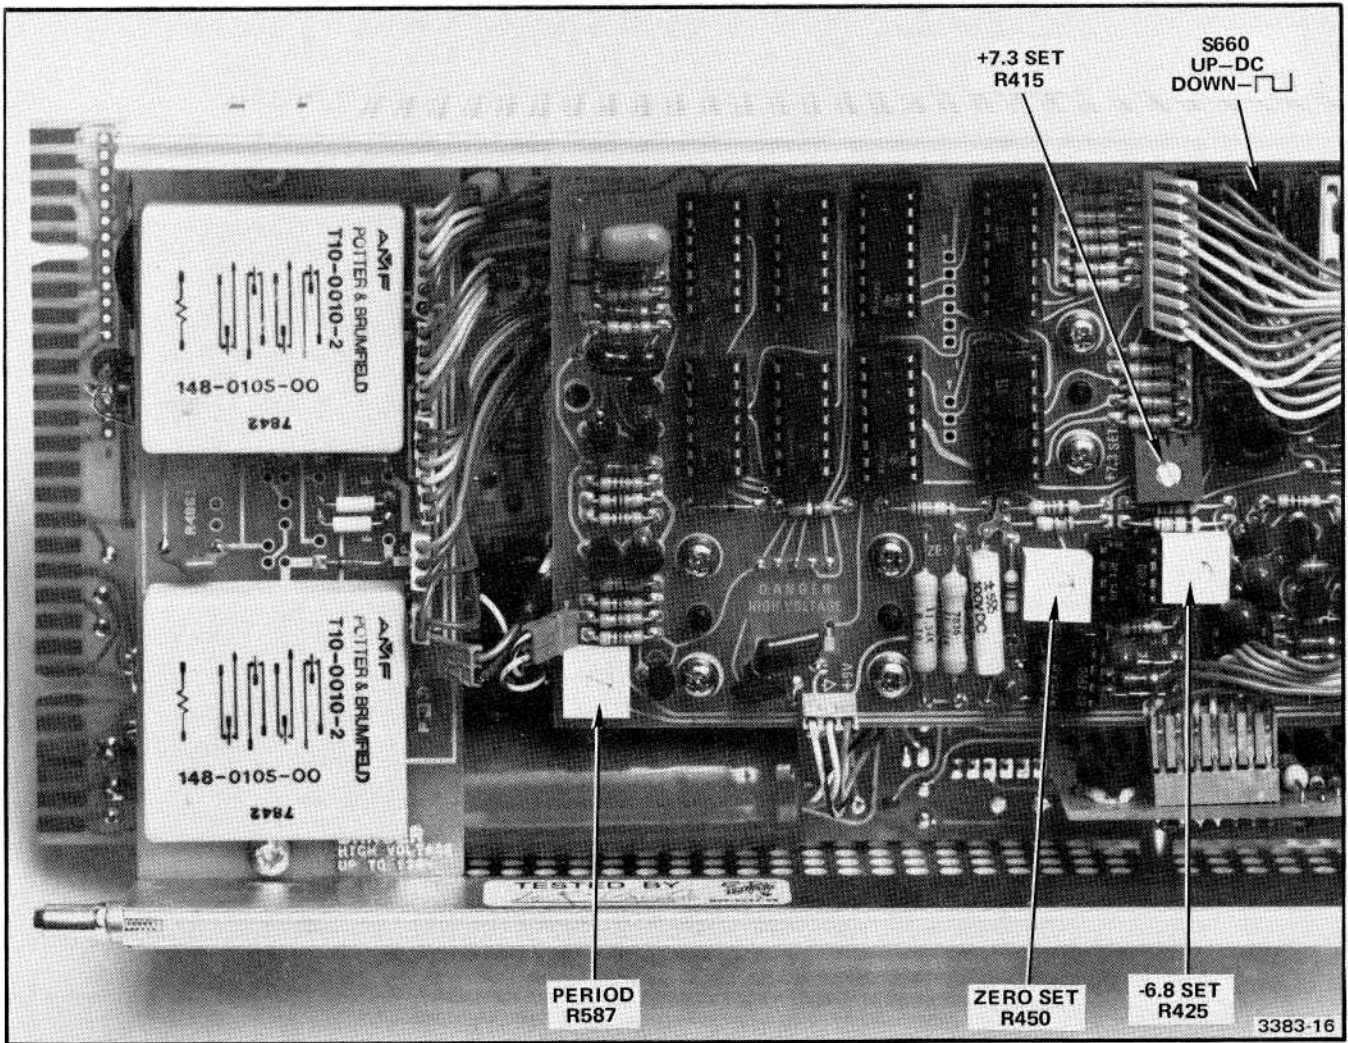

Fig. 4-6. Adjustment locations for the A2 DVM/Period circuit board.
DC— (S660)	DC (up) Refer to Fig. 4-6.
d. Adjust—Zero Set (R450) for a 0.0% reading. Refer to Fig. 4-6.
g. Adjust—6.8 Set (R425) for a 6.8 reading. Refer to Fig. 4-6.
j. Adjust—+7.3 Set (R415) for a 7.3 reading. Refer to Fig. 4-6.
d. Adjust—Period (R587) for one complete cycle in 5 divisions. Refer to Fig. 4-6.